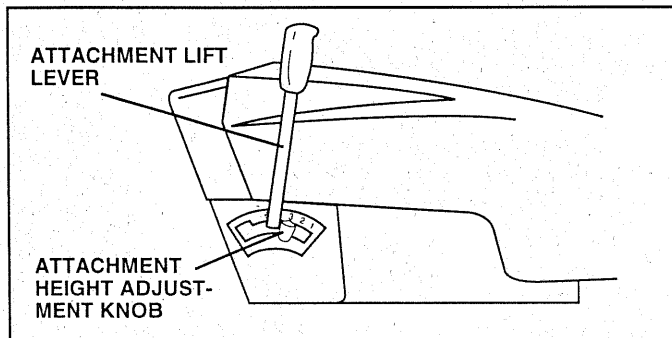

FIG. 19
- Place attachment height adjustment knob in position "3" (See Fig. 19).